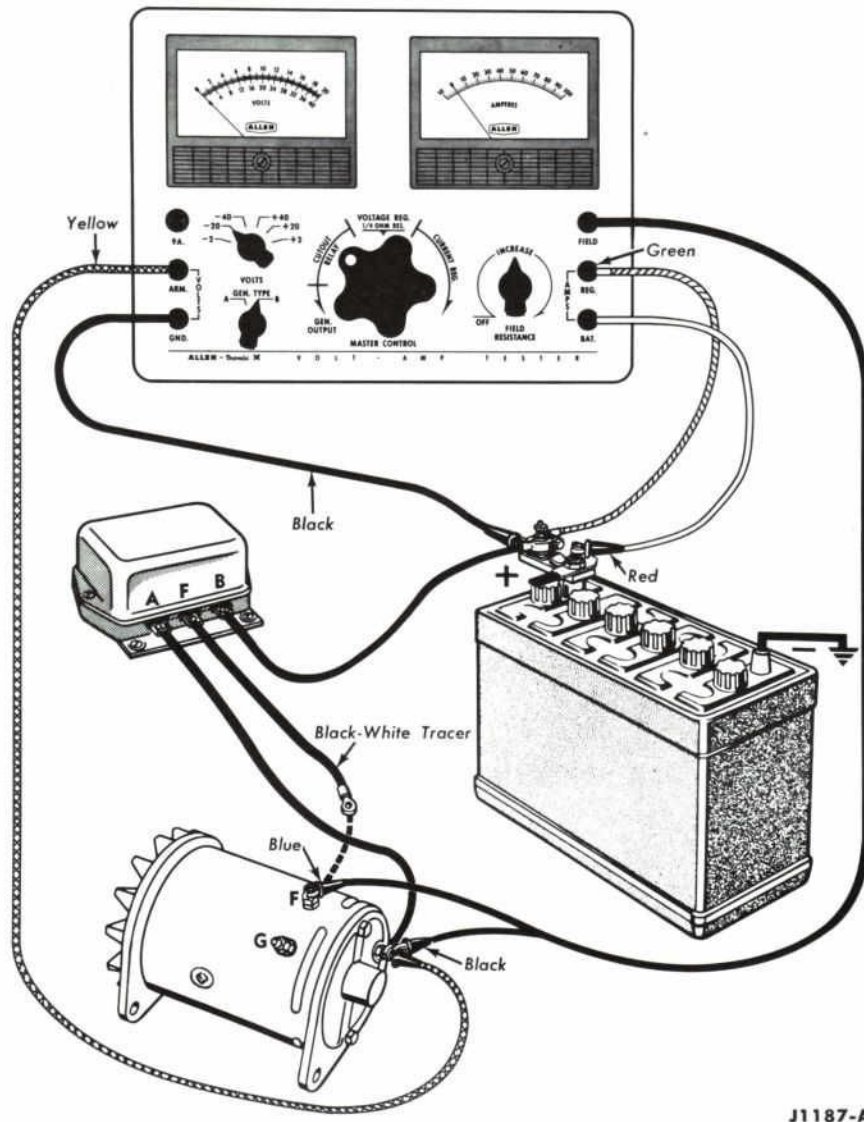

FIG. 29— Voltage Drop (Generator Armature to Battery)
1. Except for the black voltmeter lead which is not connected at this time, make the connections as shown in Fig. 29.
3. Adjust the field resistance knob to produce an ammeter reading of 20 amperes. Now connect the black voltmeter lead to the adapter switch terminal (Fig. 29).